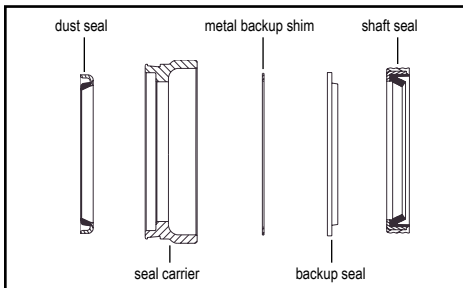
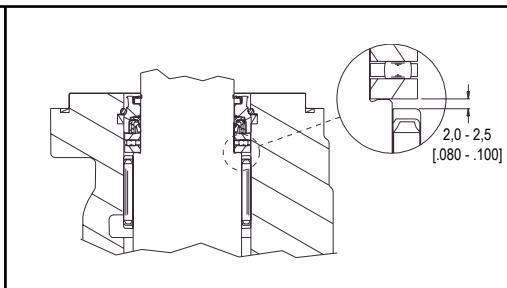

FIGURE 1
FIGURE 2
- F)** Using Figure 1 for correct orientation, install backup shim (5), Teflon backup seal (6) and shaft seal (7) into the seal carrier (12). Place side of seal carrier (12) with seal down on a flat surface and press down to seat seals in seal carrier (12). Install the dust seal (1) in the opposite side of the seal carrier (12) using Figure 1 for correct seal lip orientation. Make certain that shaft seal and dust seal are coated with oil to provide start-up lubrication.
- G)** With the flange side of the housing face up, place one thrust washer (13), then thrust bearing (14) and second thrust washer (13) against roller bearing in housing. Install the seal carrier assembly (5-7, 12) into the housing (16) making sure that the large O.D. side faces down. Install the high pressure seal (4) into the housing groove. To install the metal backup shim (3), slightly squeeze the shim between the thumb and forefinger to bow the shim. While maintaining the bow, start the shim into the groove and use a small screwdriver to push the shim into the groove. Install the wire ring (2) into the groove making sure that the ends are butted.
- I)** With output end of shaft facing up, insert shaft into housing and press seal carrier down until it is seated against the wire ring in the front groove. Remove shaft from housing. There should be 2,0 - 2,5 [.080 - .100] clearance between the rear-most thrust washer (13) and the front shaft bearing (15) (See Figure 2). If the front shaft bearing is against the thrust washer, it must be pushed back into the housing to provide the necessary clearance.
- J)** Mount the housing in a vise with the mounting flange side facing down. If a 1-1/4" or 32mm shaft is being installed, liberally coat the output end of the shaft with STP®. (Make sure area around key slot is thoroughly coated before installing shaft into housing). With the output end of the shaft facing down, insert into the housing. Place the remaining thrust washer (13) against the shaft end followed by the remaining thrust bearing (14).
- K)** Place a body seal (8) into the groove in the rear face of the housing. Insert the drive link (18) into the shaft with the tapered end facing up. Place the wear plate (17) over the drive link (18) and onto the housing making sure to use the alignment marks as a guide to assure correct orientation of the wear plate (and the remaining components).
- L)** Place a body seal (8) into the groove in the face of the rotor assembly (19). With the seal side of the rotor assembly (19) facing the wear plate, line up the splines of the drive link (18) and the rotor assembly (19) and lower the rotor assembly onto the housing (16).